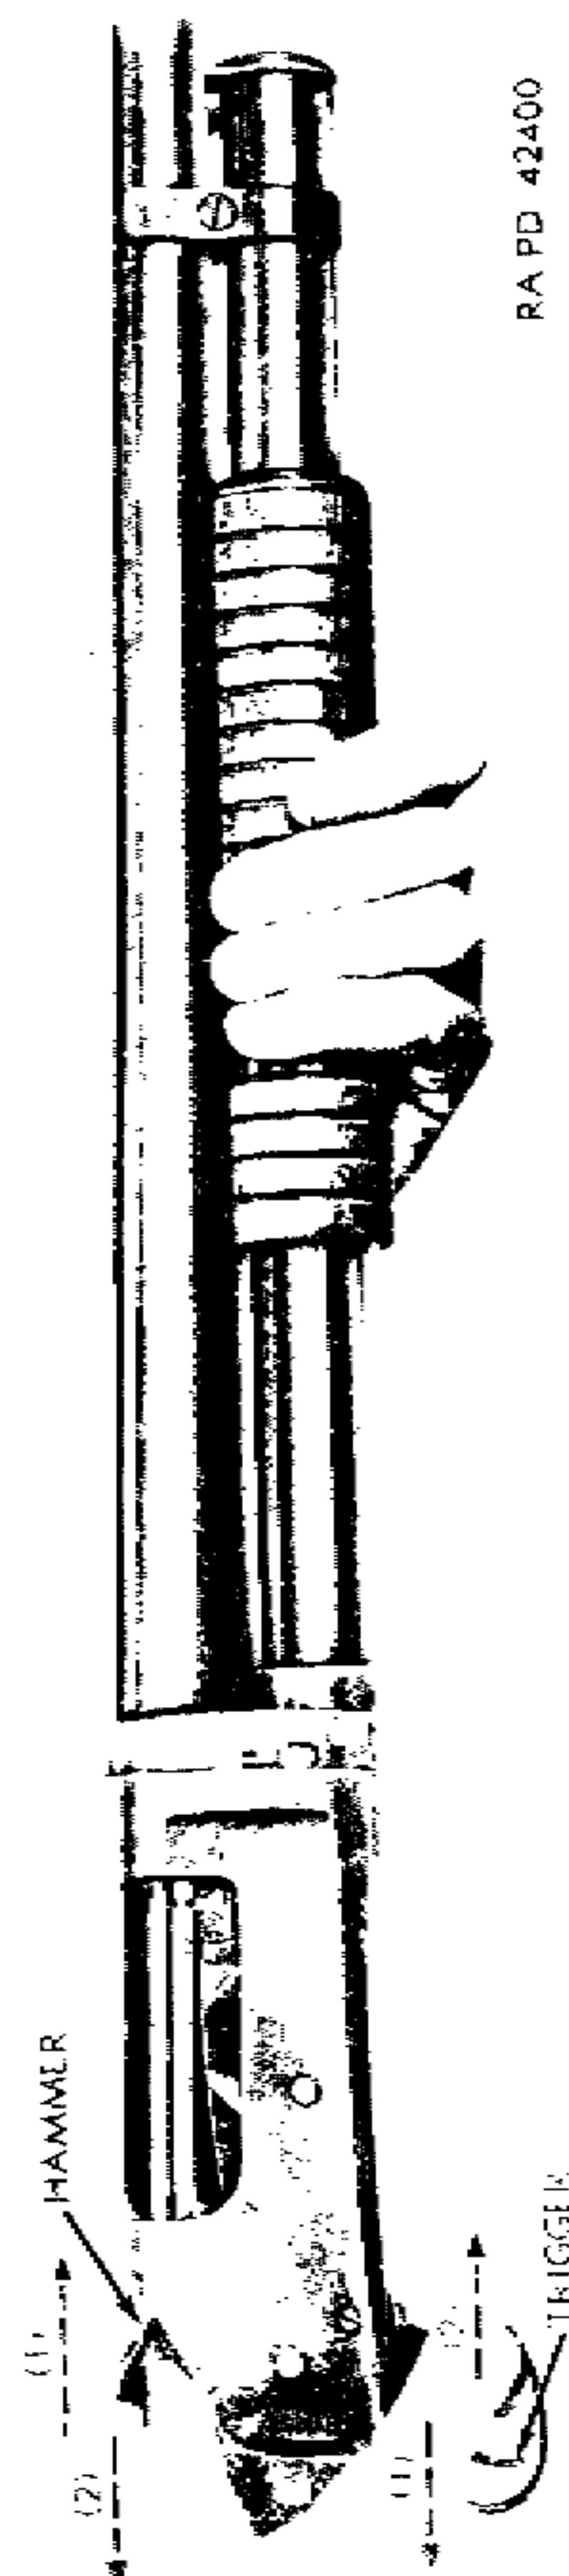

Figure 10—Setting Hammer at Half Cock (Safe) Position—Winchester Shotgun M97
(2) To unload the magazine, place hammer at half cock (fig. 10), press in the two shell stop plungers projecting through the walls of the receiver, and allow the shells to run out of the magazine. Inspect magazine to see that it is empty. Then retract action slide handle to eject shell in the chamber and inspect chamber and receiver to be sure gun is empty.